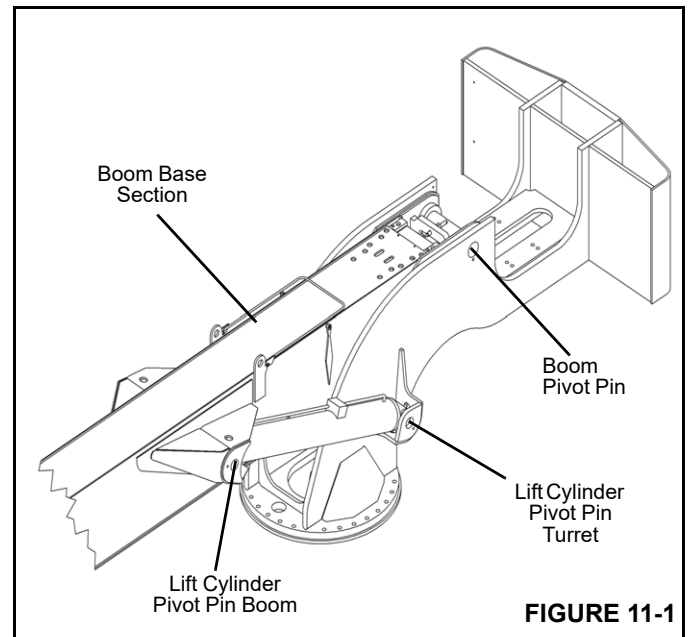

FIGURE 11-1
4. Install the boom pivot pin (Figure 11-1).